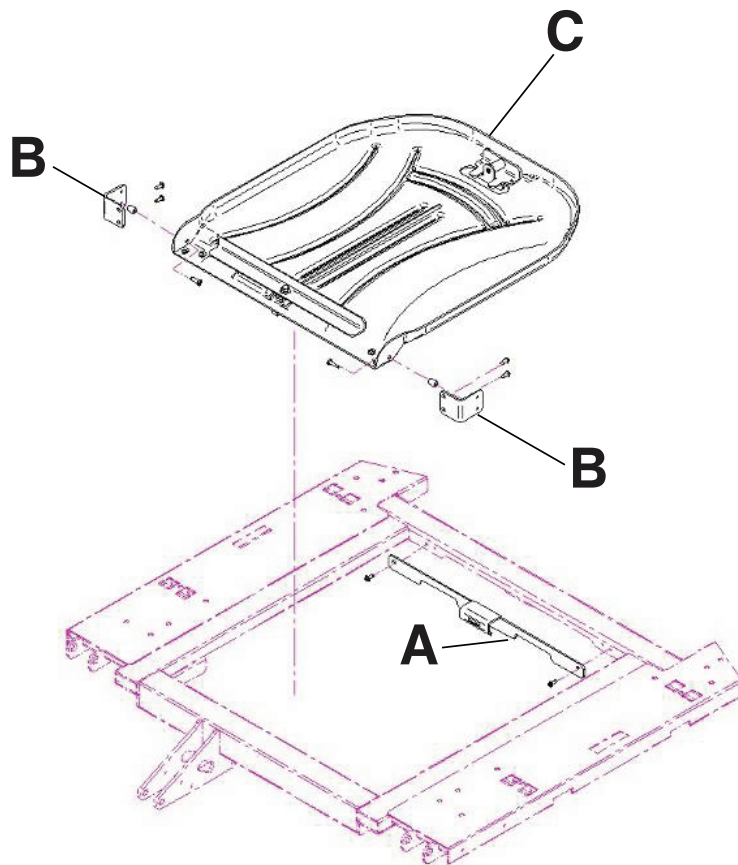

Figure 137: X-ray cassette holder
3. Turn the battery switch to the OFF (O) position.
5. Using a #2 Phillips screwdriver, install two screws to secure the fastener (A) to the top of the fowler frame (Figure 137 on page 119).
6. Using a #2 Phillips screwdriver, install four screws to secure the two cassette holder pivot brackets (B) into the lower fowler section (Figure 137 on page 119).
7. Using a #2 Phillips screwdriver, install two screws and two spacers to secure the X-ray cassette holder (C) into the cassette holder pivot brackets (B) (Figure 137 on page 119).